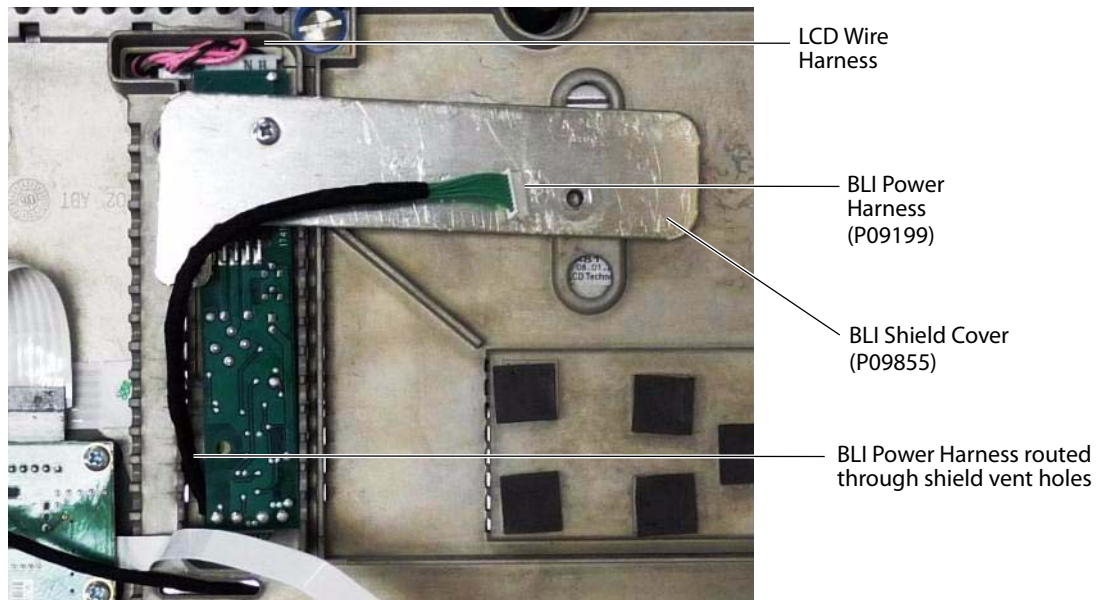

Figure 4.9 Backlight Inverter Replacement
- 3 Disconnect the LCD wire harness connecting the Backlight Inverter PCB and the LCD as shown in Figure 4.9
- 3 Insert the replacement Backlight Inverter PCB into the on the LCD Housing as shown in Figure 4.9.
- 4 Route the BLI Power Harness through the enclosure vent holes as shown in Figure 4.9.